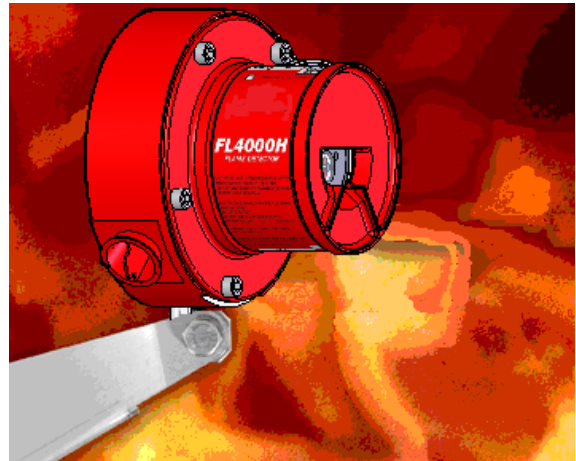

Figure 6: FL4000H Front View
The General Monitors' FL4000H is a Multi-Spectral Infrared (MSIR) Flame Detector (Figure 6). The FL4000H employs state-of-the-art infrared (IR) detectors and a sophisticated *artificial neural network* (ANN) based signal processing to produce a system that is highly immune to false alarms caused by lightning, sunlight reflection, arc-welding, hot objects, and other sources of radiation. In addition, the FL4000H can see through most smoky type fires such as diesel, rubber, etc.